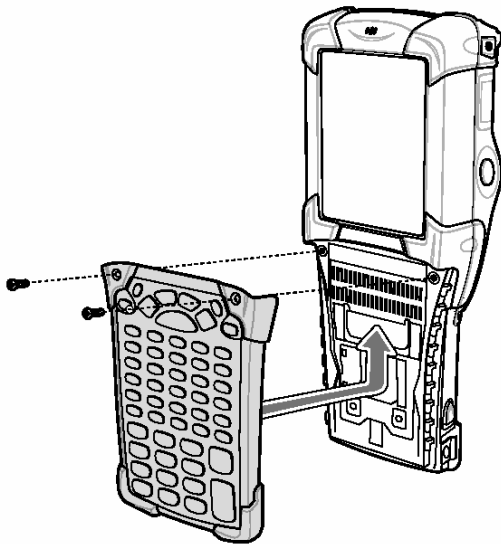

Fig. 4: Changing the keypad
7. Snap on the keypad in the direction of the arrow (fig. 4) and push it upwards until the boreholes for the screws are over the threaded sleeves.
9. Push the keypad in the direction of the arrow (fig. 4) until the boreholes on the keypad are positioned over the threaded holes on the enclosure. Tighten the screws (torque = 0.565 Nm / torque = 5.0 in-lbs), 0.5 Nm advisable